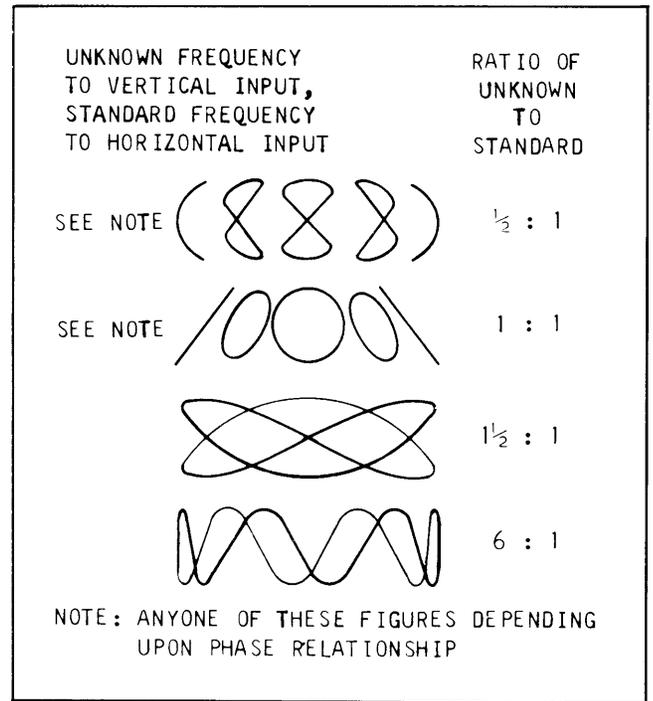

Fig. 42. Lissajous waveforms used for frequency measurement.
4. The resulting pattern, called a Lissajous pattern, shows the ratio between the two frequencies. See Fig. 42.